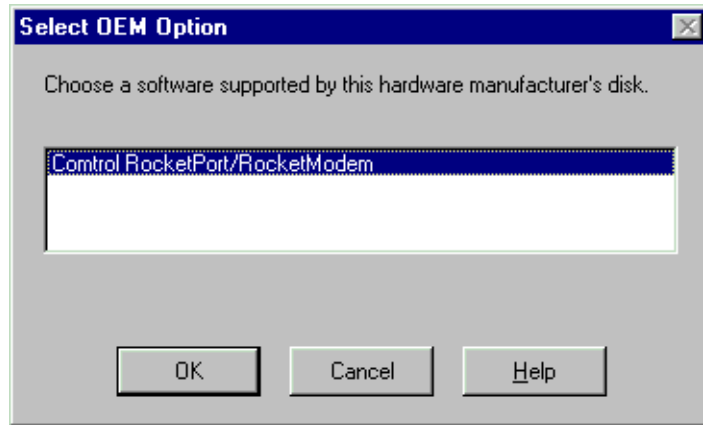

Figure 2. Select the RocketPort driver.
7. The Select OEM Option dialog box appears (see Figure 2). Ensure that the Control RocketPort RocketModem is selected, then click **OK**.